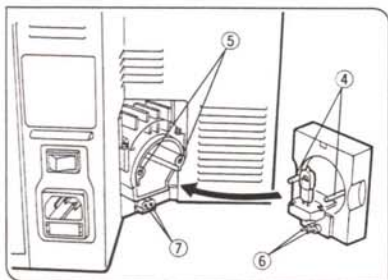

Fig. 2
2. Align the guide pins ④ with the guide pin slots ⑤ and the plug ⑥ with the socket ⑦, gently push the illuminator into place. (Fig. 2)